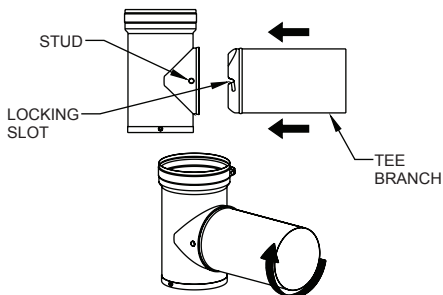

Figure 11
Step 3. When the Tee is in its final location, attach the Tee Branch to the main body of the Tee (**Figure 11**). Align the locking slots on the Tee Branch with the studs on the Tee then slide it into the Tee. Rotate the Tee Branch clockwise to snap it into a locked position.